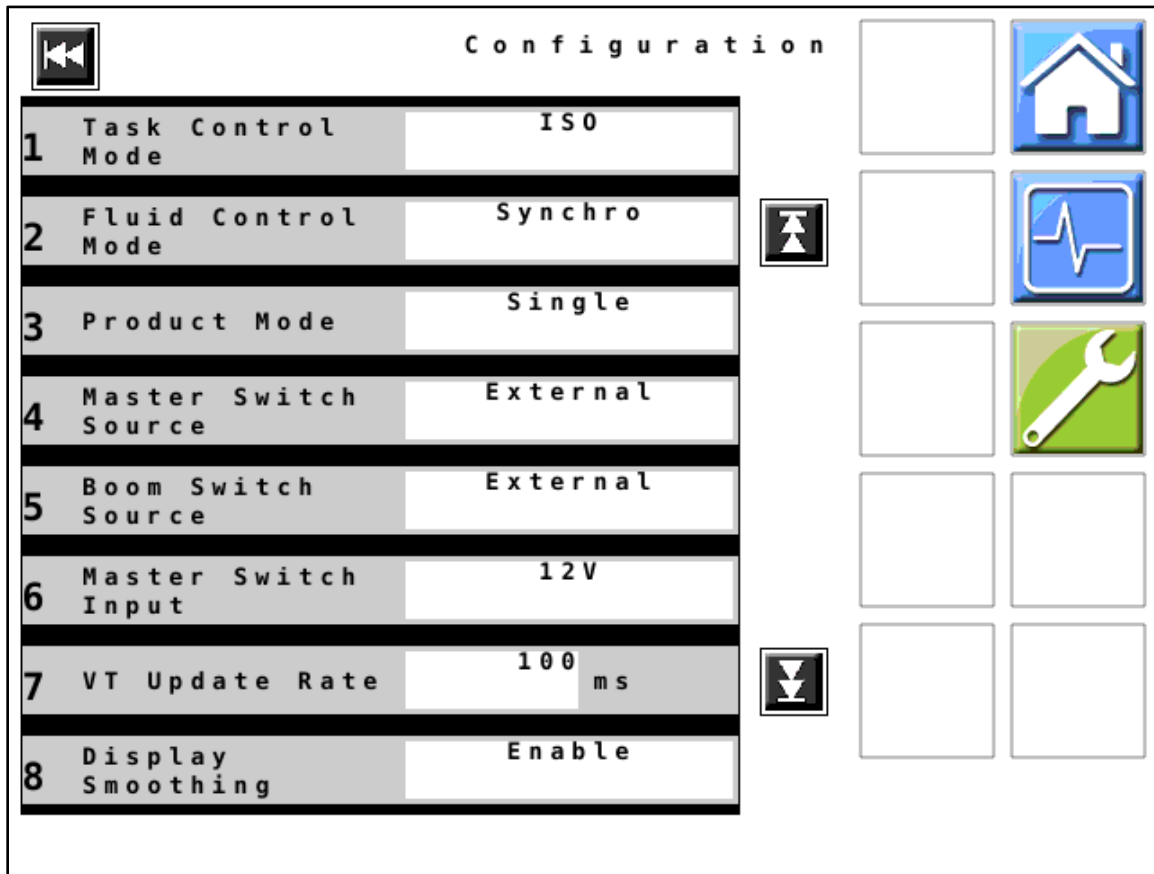

Figure 6 — Configurations Page 1
**Note:** ANYTIME you change settings, you MUST tap the **Settings** icon  to go into the **Settings** menu and select **Initial Setup > Configurations > Software Restart** to save settings. If the unit is turned off or loses battery power before this is done, the new settings will not be saved. Refer to *Figure 6* for the location of this function.
13. *Figure 6:* Verify that all values displayed on your unit match those shown here. Change values if necessary.